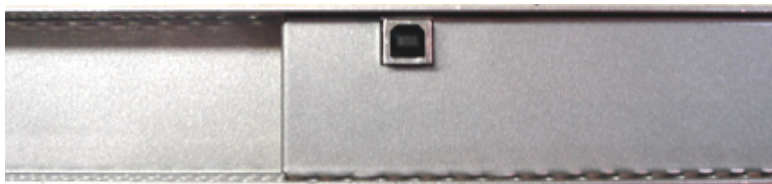

Fig. 4 - Section of back of bezel with USB B-type plug
- D. Push the bezel towards the front of the chassis, inserting the USB B-type plug on the back of the bezel (Fig. 4) into the USB port on the chassis.